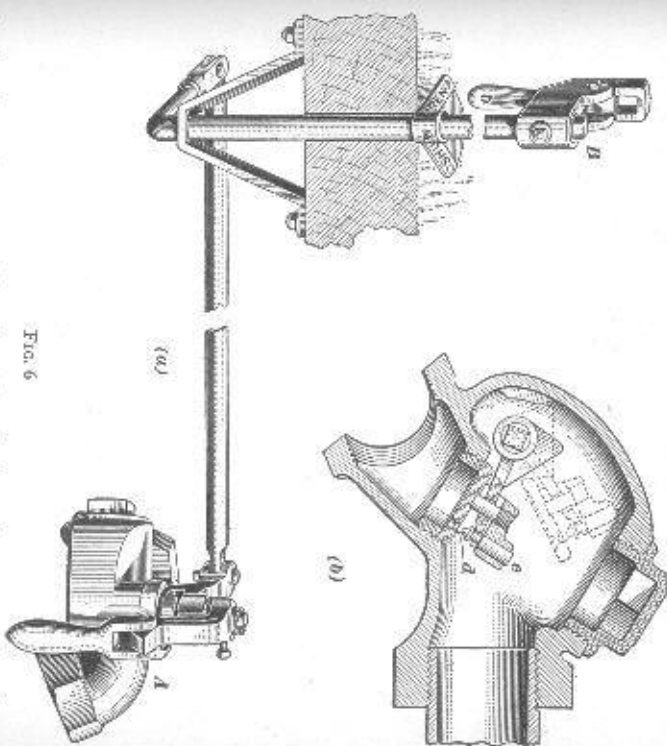

FIG. 6
7. End Train-Pipe Valve No. 105.—An end train-pipe valve that is used with this vapor system of heating, especially on vestibule cars where it is desired to operate the valve from the platform of the vestibule, together with the platform operating attachment, is shown in Fig. 6 (*a*). In the figure, *A* is the end train-pipe valve, and *B* the platform operating attachment by means of which the valve is operated from the platform. The train-pipe valve also may be operated by the handle on the valve itself under the end of the car. When the platform handle *b* is turned to the position marked *Open* on the indicator plate, the end train-pipe valve is open; when the handle stands at *Shut*, the valve is closed. It is changed from open to shut or vice versa with about a quarter turn of the handle. Turning the handle in the direction that a screw-driver is turned to tighten a screw, closes the valve. Turning the handle the reverse way opens the valve. When in either open or shut position, the train-pipe valve is locked in that position by turning the handle down as shown in Fig. 6 (*a*).
20. Regulation of End Train-Pipe Valves.—From Fig. 6 it will be seen that the No. 105 train-pipe valve can be operated either by the platform handle or by the handle on the valve itself. Also, this is true for the No. 104 valve. The open